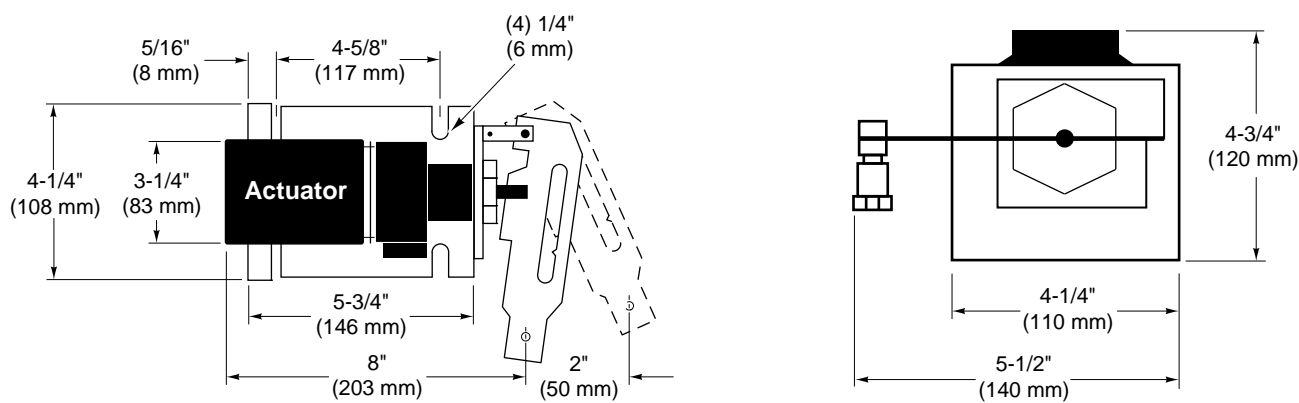

Figure-20 Damper Linkage Assembly Dimensions.
- b. Be sure to allow adequate working space around the actuator mounting location to mount the actuator, link it to the damper, and wire it into the system (refer to Figure-20).
2. Position the actuator on the duct and mark the location of the mounting holes, using the actuator mounting bracket as a template (refer to Figure-20).